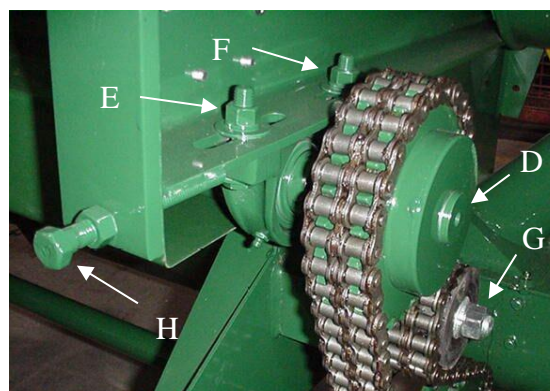

Figure 44 - Belt Tension Adjustment Bearing Mount.
- Loosen bolts "E" and "F". (See Figure 44)